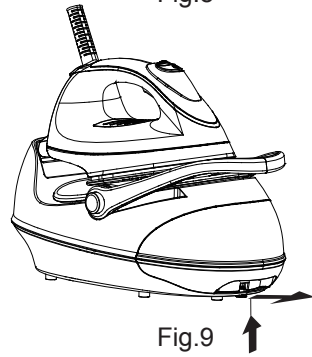
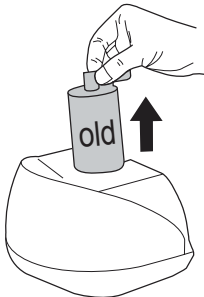
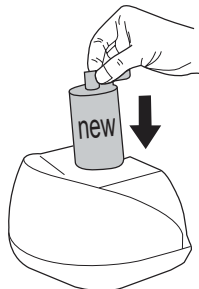

Fig.9
Fig.10
Fig.11
2. Replacement Method: Slide water tank out from base unit (Fig.9), take the filter out from water tank (Fig.10), and then replace with a new one. (Fig.11) After new filter has been installed into water tank, fill water tank to Max fill level, and then slide tank back into base unit. (Immerse filter in water for several minutes in order to gain better performance for future use.)